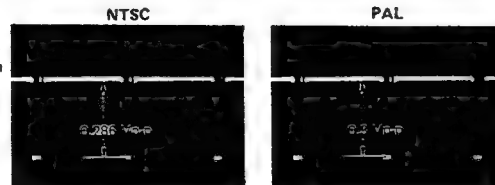

Fig. 3-3
- (1) Connect an oscilloscope to TP-3 on BC BOARD.
- (2) Adjust R96 (BC SYNC) for SYNC level as shown in Fig. 3-3.